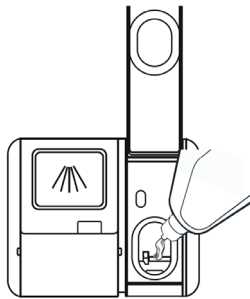

Fig. 4
3. Slowly pour the rinse aid into the dispenser (Fig. 4). The capacity of the empty dispenser is about 140 ml.